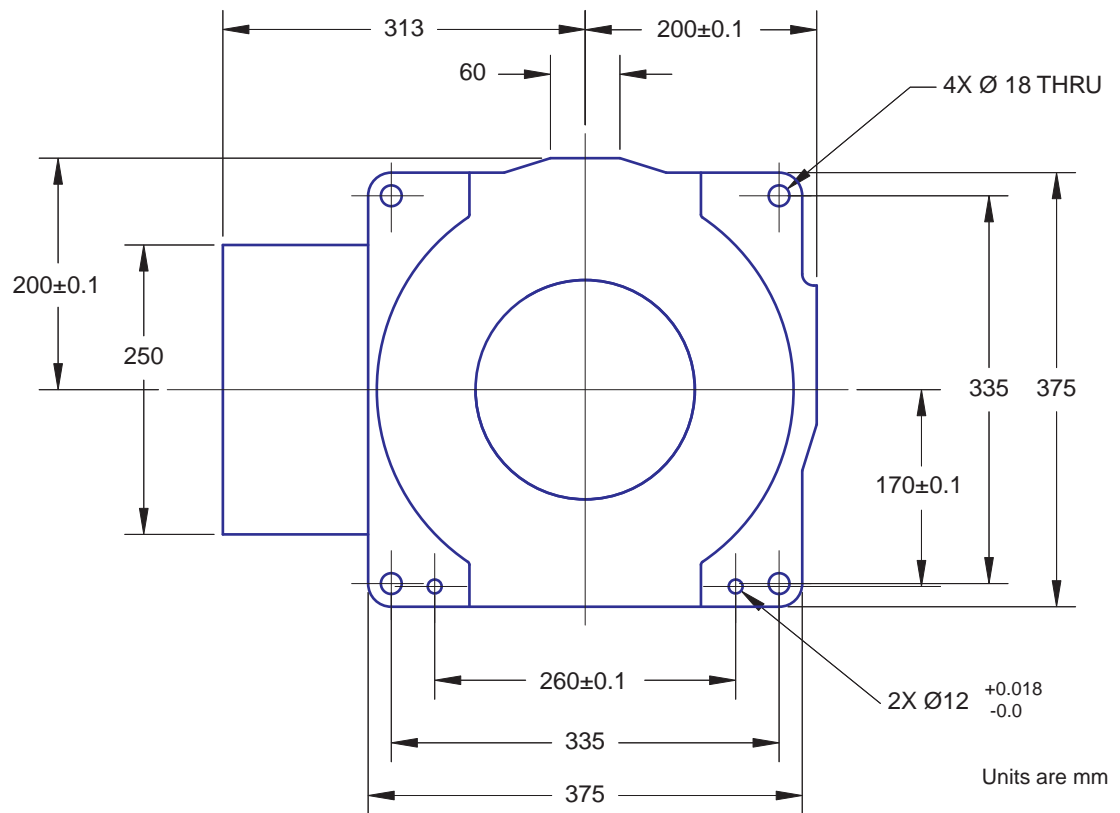

Figure 2-5. Mounting Hole Pattern for Robot
**NOTE:** See Figure 2-5 on page 27 for the mounting hole pattern.